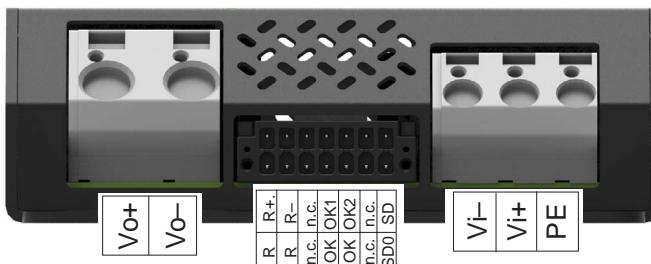

Fig. 13
- Auxiliary connector: Phoenix Contact 1713883; recommended wire section: 0.2 – 1.5 mm2, 24 – 16 AWG; pin allocation see fig. 13.